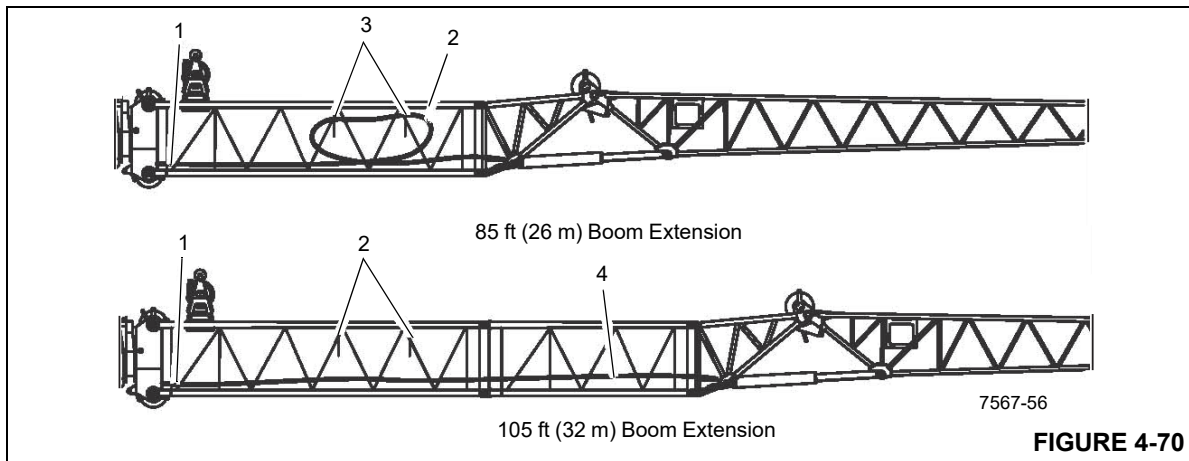

FIGURE 4-70
The electric cable (1) (Figure 4-70) is installed in the 26 ft (8 m) extension (2), with the long end of the cable wound on the stowage lugs (3).